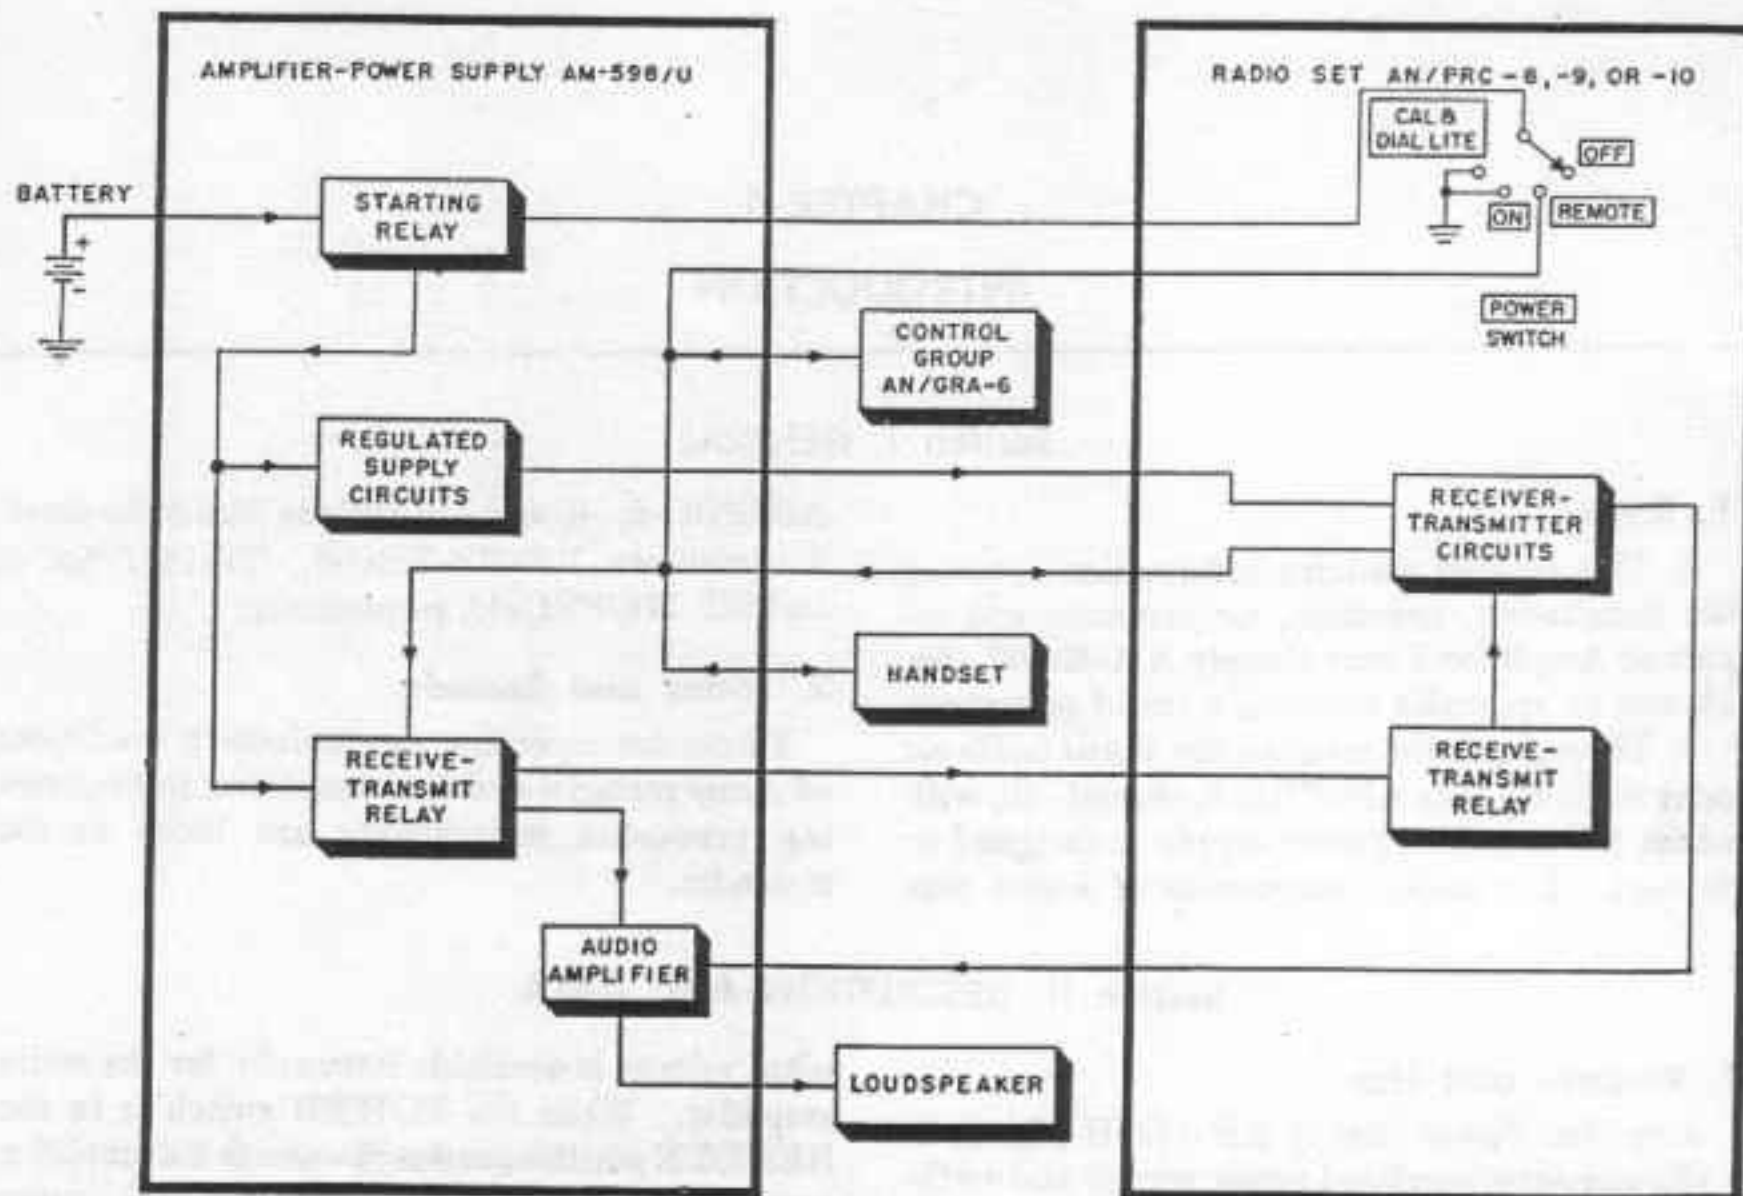

Figure 2. Amplifier-power supply AM-598/U, system application.
(fig. 2)
a. Figure 2 is a simplified block diagram of a system in which the amplifier power supply is used to provide the necessary operating potentials and audio amplification for Radio Set AN/PRC-8, -9, or -10.